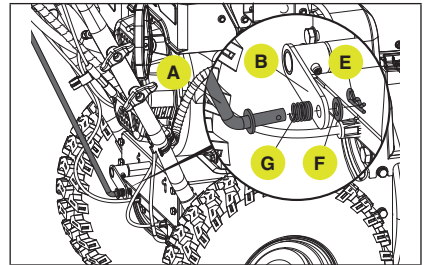

Figure 39
1. Locate the speed control rod (A) connected to the connecting lever base (B). Disassemble the speed control rod from the connecting lever base. (Fig. 39)